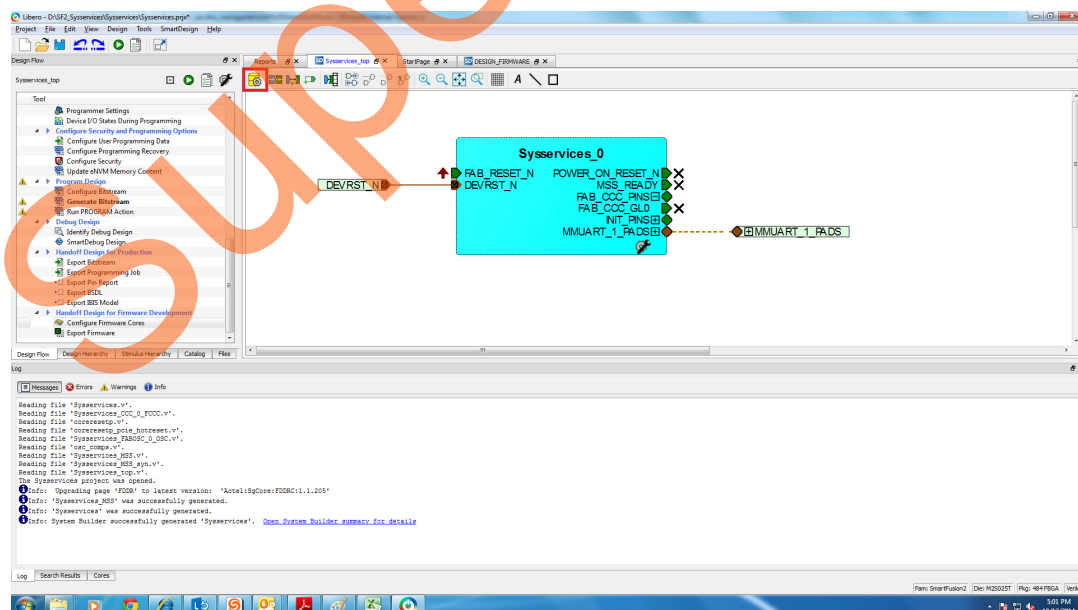

Figure 13 • Generate Component
3. Select **Sysservices** tab on the SmartDesign canvas and click **Generate Component** as shown in Figure 13.
After successful generation of all the components, the following message is displayed on the log window, as shown in Figure 13 on page 15.